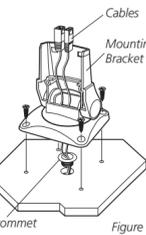

Figure 22
- Place the mounting bracket on the mounting surface aligned with the drilled holes. Insert the four flathead wood screws into the mounting holes and tighten fully (Figure 22).